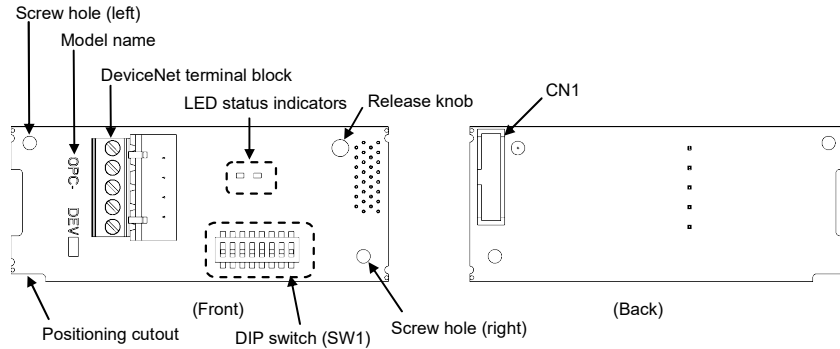

Figure 2.1 Names of Parts on DeviceNet Communications Card (OPC-DEV)
- (1) A communications card, two screws (M3 × 8), and the DeviceNet Communications Card Instruction Manual (this manual) are contained in the package.
- (2) The communications card is not damaged during transportation—no defective parts, dents or warps.
- (3) The model name "**OPC-DEV**" is printed on the communications card. (See Figure 2.1.)
Figure 2.1 shows the names of the parts on the DeviceNet communications card.
- (2) Insert connector CN1 on the back of the communications card (Figure 2.1) into the option connection ports on the inverter's control PCB. Then tighten the two screws that come with the card. (Figure 3.2)
**Note** Check that the positioning cutout (shown in Figure 2.1) is fitted on the tab (① in Figure 3.1) and connector CN1 is fully inserted (② in Figure 3.1). Figure 3.2 shows the communications card correctly mounted.
- (3) Perform wiring on the communications card.